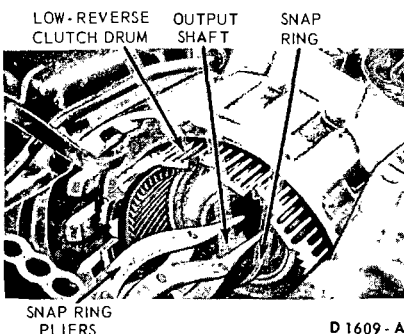

FIG. 36—Removing or Installing Reverse Ring Gear Hub Retaining Ring
14. Remove the snap ring (Fig. 36) that secures the reverse ring gear and hub on the output shaft. Slide the ring gear and hub off the shaft.